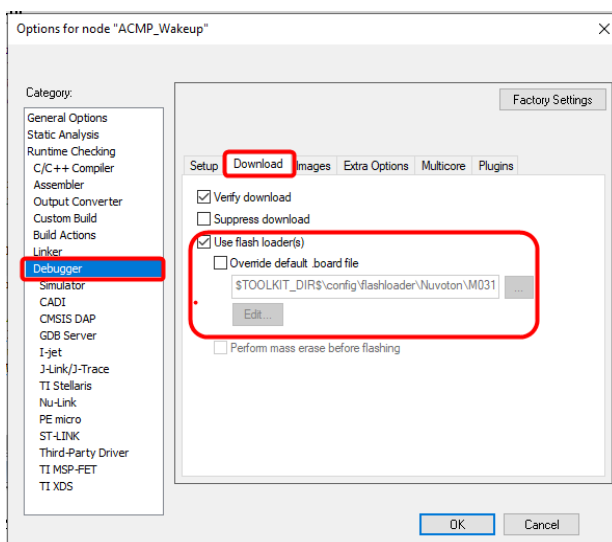

Figure 5.2-29 IAR EWARM Programming Settings
- (5) In the **Download** tab of the **Debugger** page, make sure that the **Use flash loader(s)** option is selected, as shown in Figure 5.2-29.